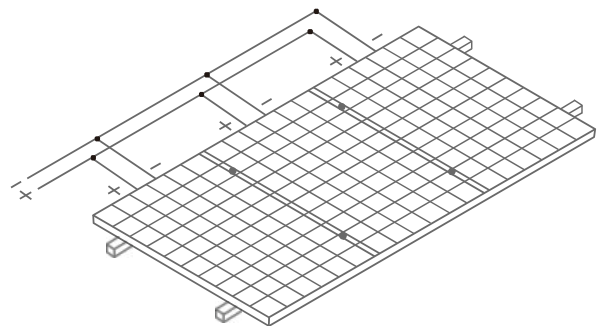

Figure 6. Connection in parallel
- When connected in parallel, the current output is equal to the sum of each string's current (as shown in Figure 6). Fuse is necessary for each module string. Take reference to the local regulation. Recommended maximum parallel Modules configurations:  $\text{Fuse rating} / (1.25 * \text{short-circuit current})$ . Please refer to the country's or local regulations for details.